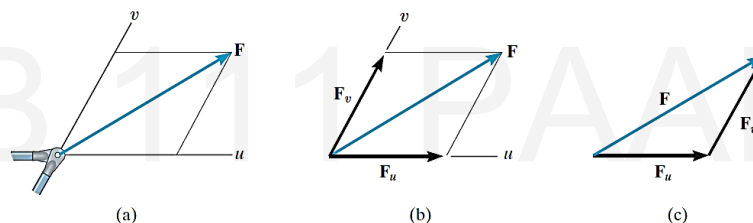

Figure 2-6: Resolving Vectors Into Components
- Basically, we “work backwards” from the *Parallelogram law of addition* or the *triangle rule of addition* to resolve the resultant force vector into components along a two axes to components as in Figure 2-6.